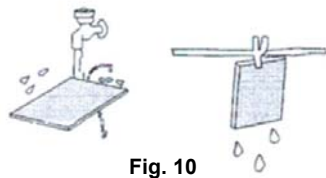

Fig. 10
3. Rinse the post motor filter in lukewarm water and let the post motor filter air dry for 24 hours until it is completely dry. (Fig. 10)